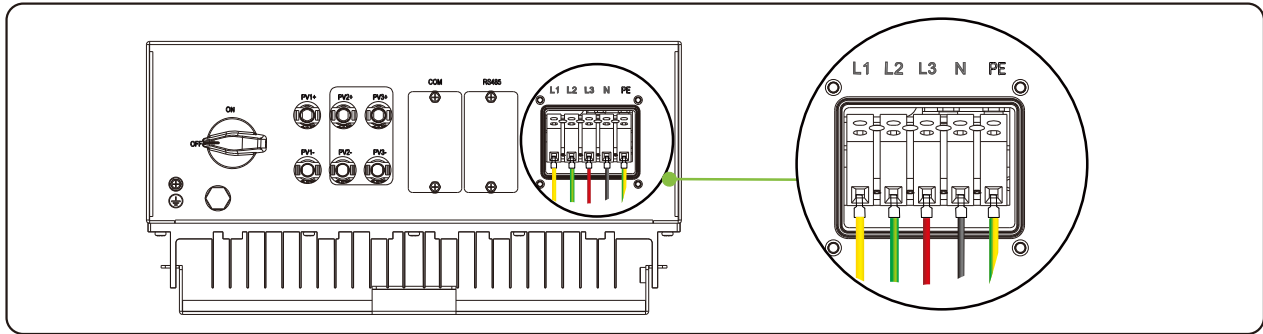

Figure 5.7 Tightening AC cable
**Step 4** Connect the AC output cable to L1, L2, L3, N and E on the AC terminal block, tighten them using screw driver with a torque of 1.5 N.m, as shown in Figure 5.7.